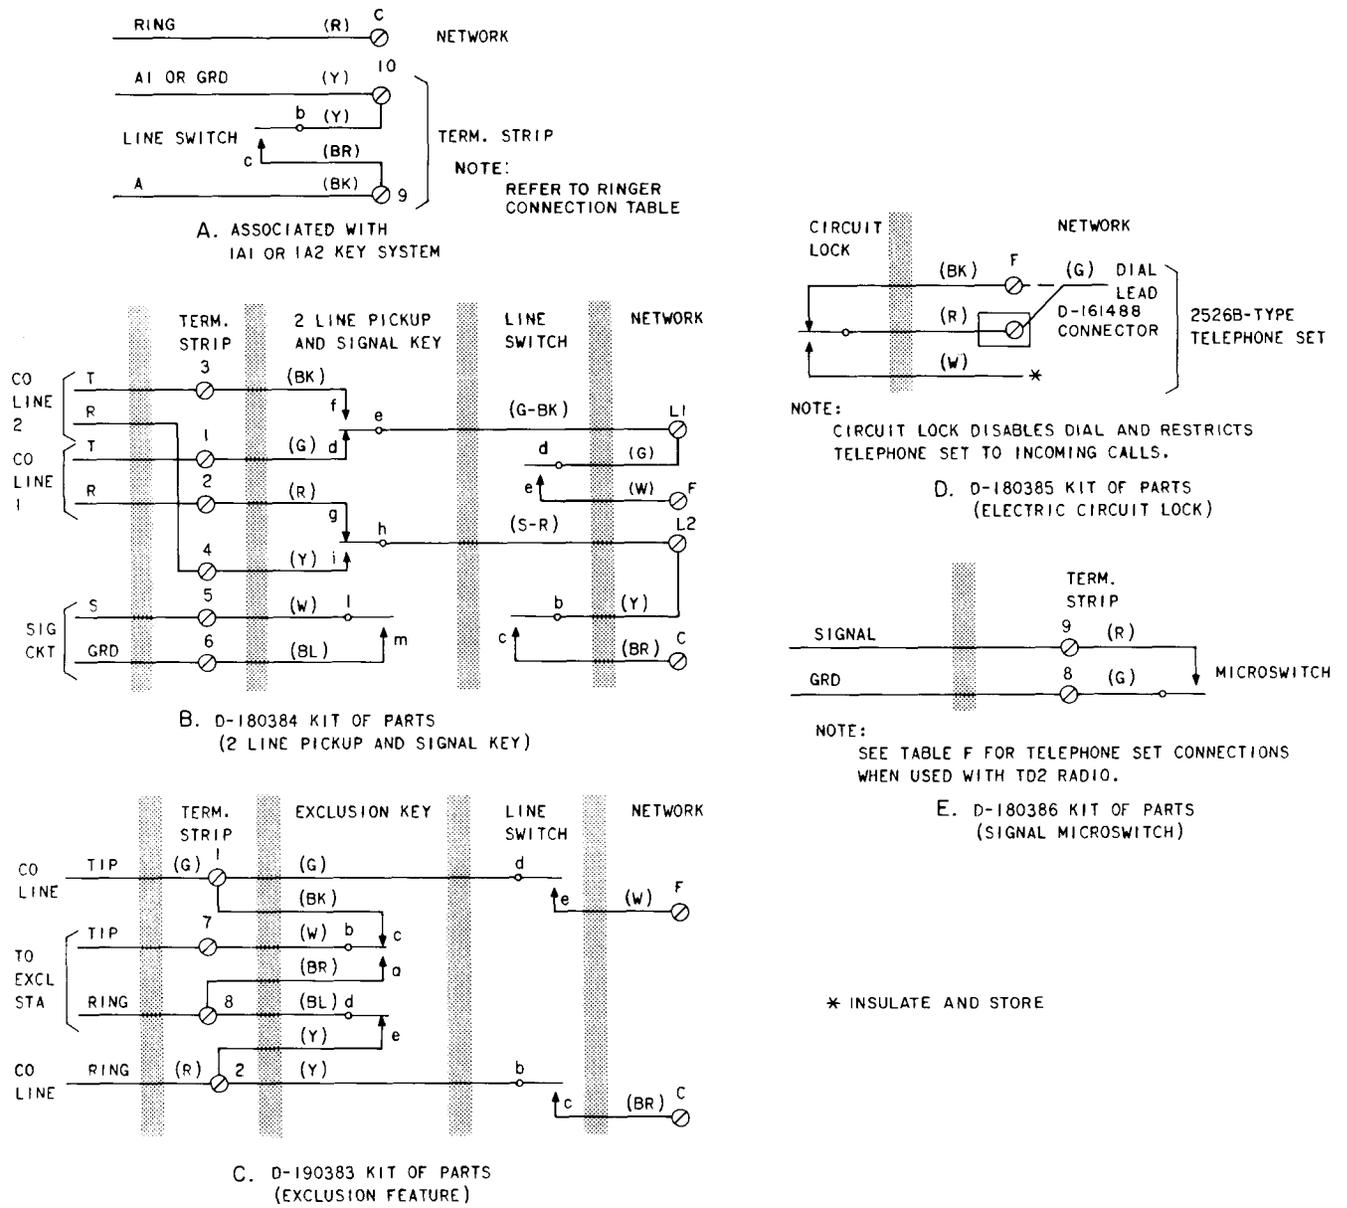

Fig. 10—Connections for Optional Features
- (1) Remove standard line switch and replace with line switch and plunger assembly from the kit of parts.
- (2) Mount exclusion switch above left dial bracket using screws furnished with the kit of parts.
- (3) Refer to Fig. 10 for connection information.
- (1) Mount the switch bracket to the mounting plate of the telephone set base directly below the dial bracket using two screws provided.
- (2) Refer to Fig. 10 for connection information.
- (3) Install a faceplate with the hole provided for the two-line switch (refer to Table A for proper faceplate code).
- (1) Remove dial from dial mounting brackets.
- (2) Mount bracket for circuit lock to outside of right dial mounting bracket.
- (4) Reinstall dial on mounting bracket.
(5) Install faceplate with hole provided for the circuit lock (refer to Table A for proper faceplate code).
3.16 The terminal plate assembly (provided with microswitch kit) replaces the terminal strip located between the dial brackets. Refer to Fig. 10 for microswitch connections and Table F for telephone set modifications when used with TD2 radio.